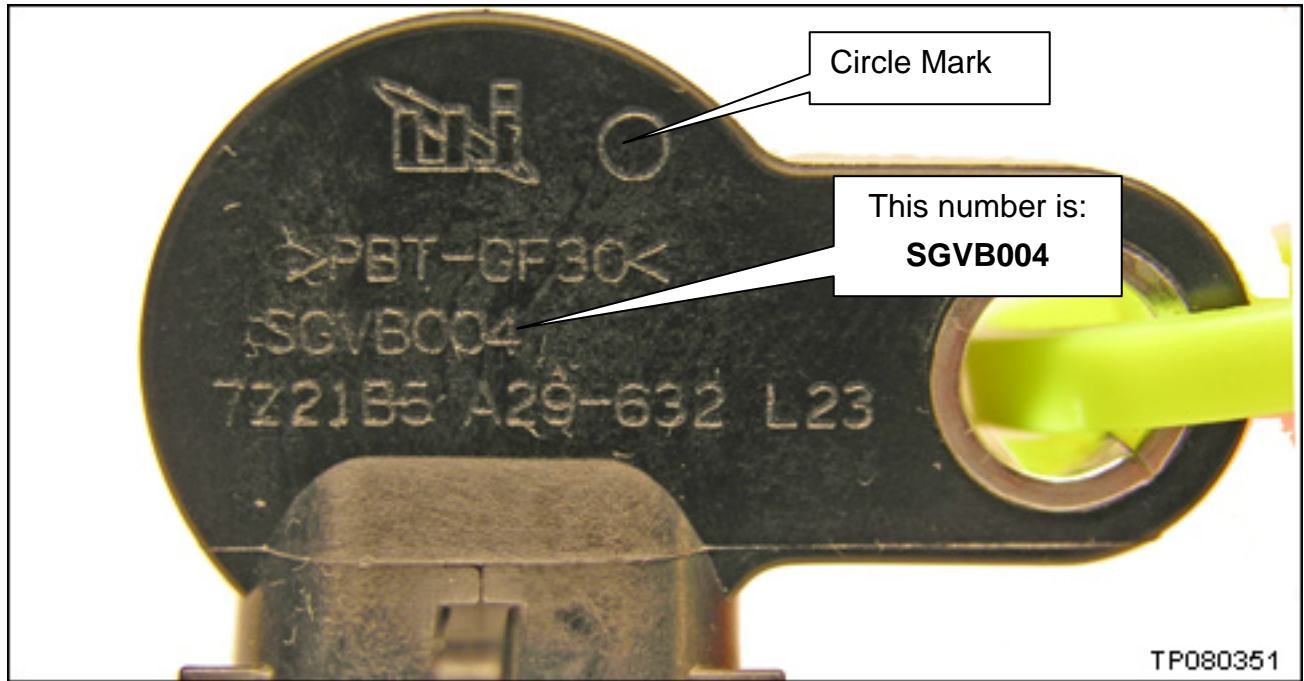

Figure 4
- To identify a Crankshaft or Camshaft position sensor that has been removed from its package, compare the sensor to Figures 4 and 5.